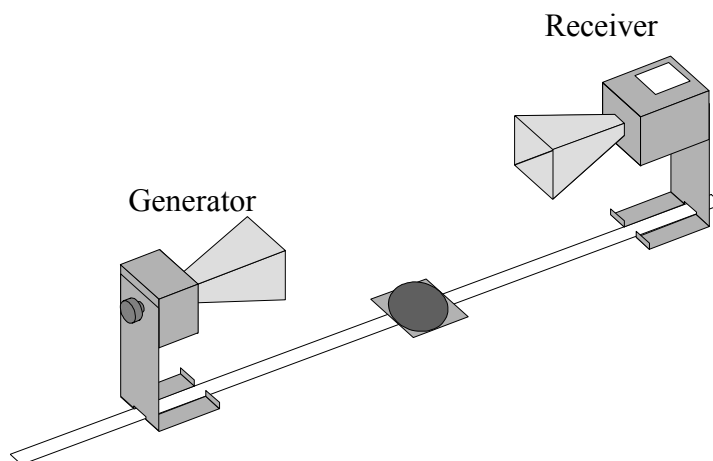

Fig. 5. Microwave generator and receiver arrangement.
1. Replace the detector probe and reflector with the receiver, as shown in Fig. 5. Set the knob on the back of the receiver to  $0^\circ$ . Starting with the meter multiplier on 30, adjust the sensitivity to obtain a signal near 0.5 on the meter. If you cannot achieve this with a sensitivity of 10 or 3, move the receiver closer to the generator.